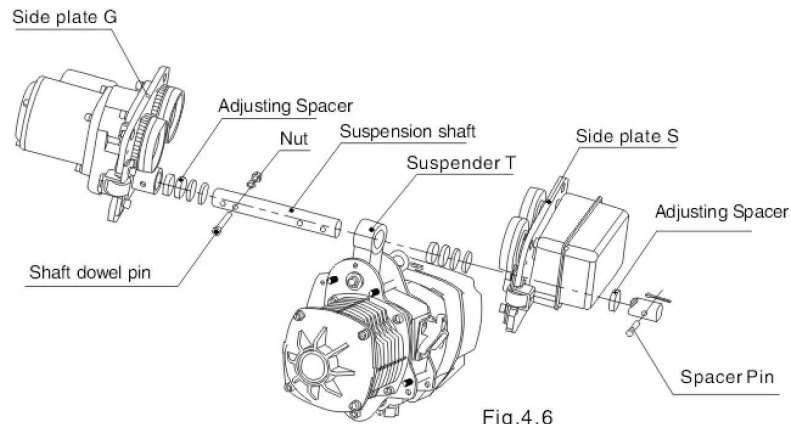

Fig.4.6
## 4.4 Installation of electric chain hoist with electric trolley (Fig.4.6)
- 3) As the Fig. 4.6 shown, do installation step by step. Firstly, install suspender T into hoist body, and insert the shaft into suspender T.